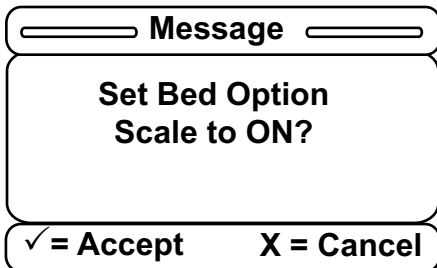

Figure 34 – Confirmation screen
- After you select one of the items, a confirmation screen will be displayed. The confirmation screen text will vary based on the item that you selected. The confirmation screen indicates that the Scale option was set to ON (Figure 34). Press **Enter** on the footboard panel to confirm your Scale option or **Exit** to cancel the operation.